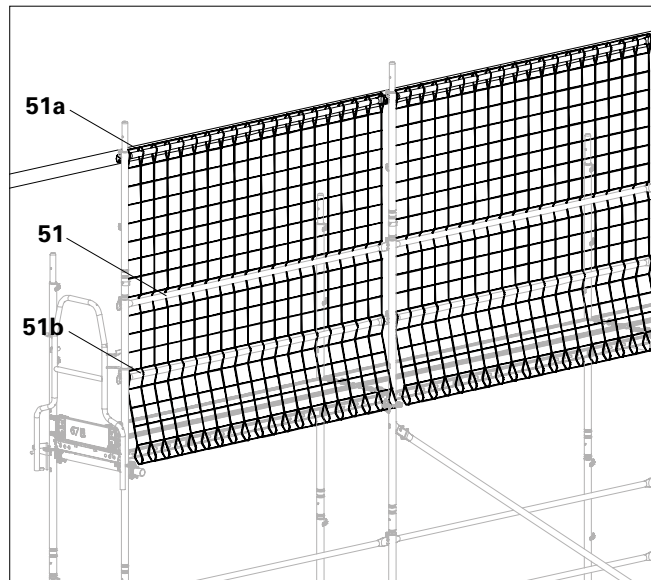

Fig. D2.02
3. Install the intermediate guardrail (**51b**). As seen from the scaffold, the net must hang in front of the guardrail post (**51**) and behind the intermediate guardrail (**51b**). (Fig. D2.02 + D2.02a)